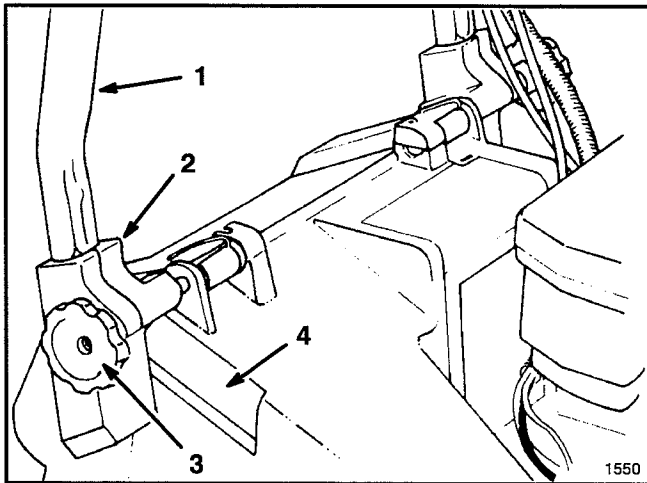
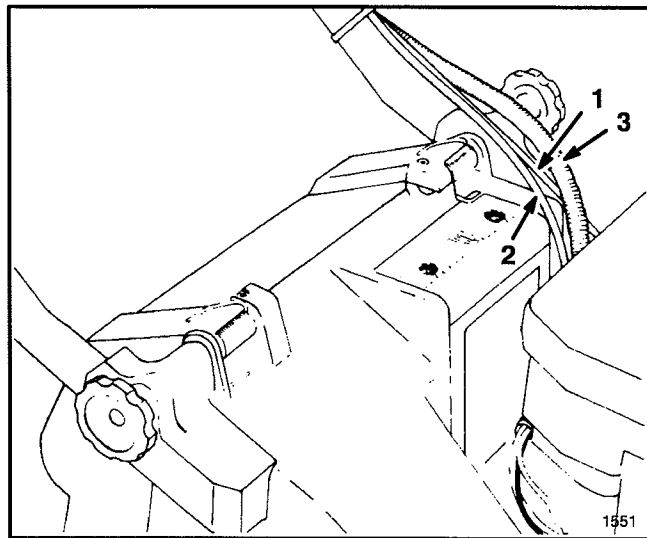

Figure 1
Figure 2
1. INSTALLING HANDLE—Loosen knobs on mounting brackets (Fig. 1).
3. Slide handle ends into holes in mounting brackets until handle ends are completely seated in brackets (Fig. 1). Make sure throttle cable, electric start cable and traction cable rest on top of left mounting bracket (Fig. 2).
4. Rotate handle and brackets rearward until brackets fit securely into housing pockets (Fig. 2).